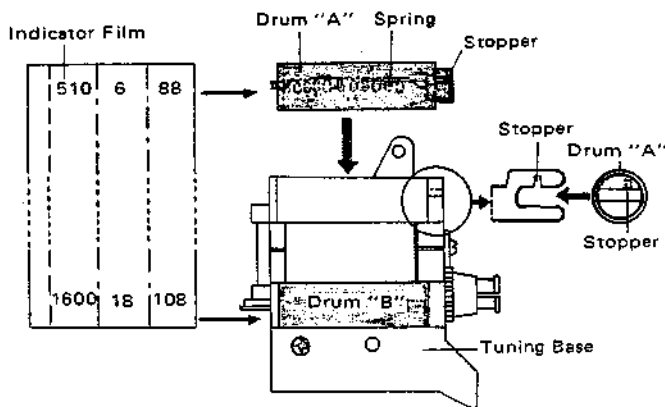

Fig. 33
4. Stick right end of dial indicator film to drum "A", wind up the film to drum "A" and insert the spring into drum "A" (Fig. 33).
6. Set the drum "A" to tuning base (Fig. 33).